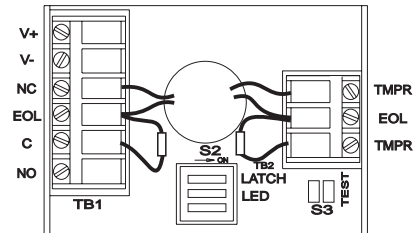

Figure 2c
**NOTE:** If end-of-line resistors are required, wire as shown in Figures 2c and 2d.